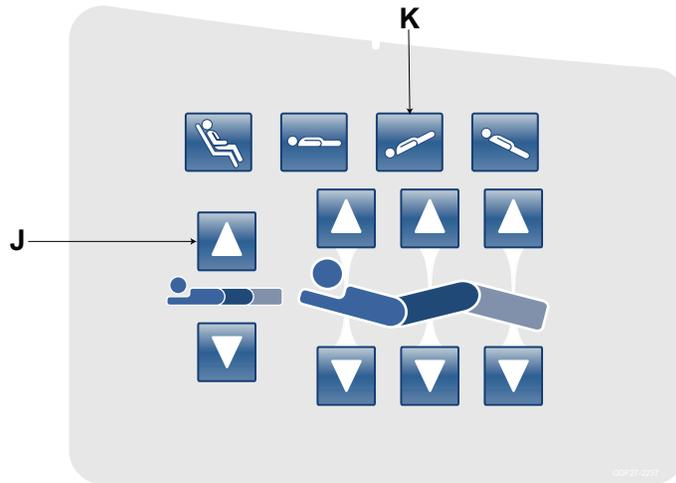

Figure 10 – Raise bed height
10. Raise the bed height to 20 inches measuring from the top of the seat section to the floor. Press the **Bed Height Up (head lift up) (J)** and **Trendelenburg (foot lift up) (K)** buttons (Figure 10).